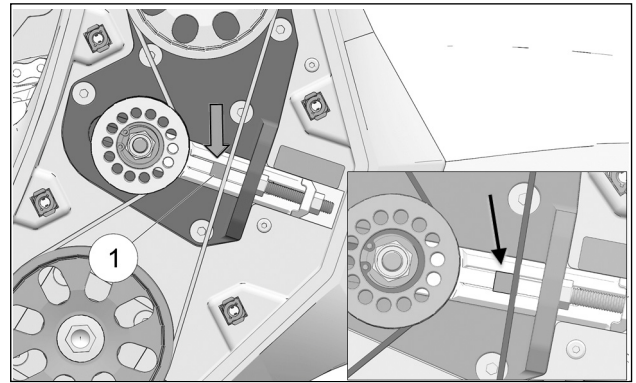

Figure 38
- Slide the red tension gauge (1), incorporated in tensioner mechanism, to the outer edge of the Syncrodrive belt. See Figure 38.